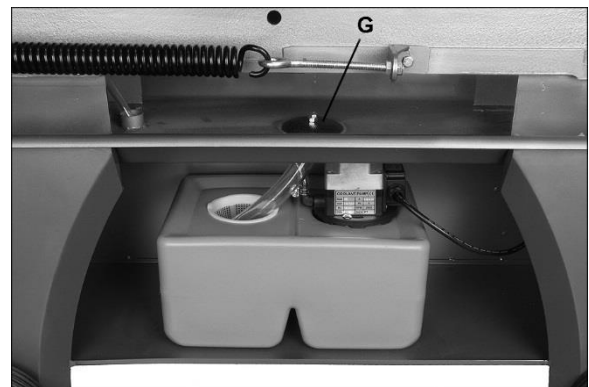

Figure 6-13: coolant tank
10. Place the filter assembly (G, Figure 6-13) over the drain hole and install the hose under the filter tube.